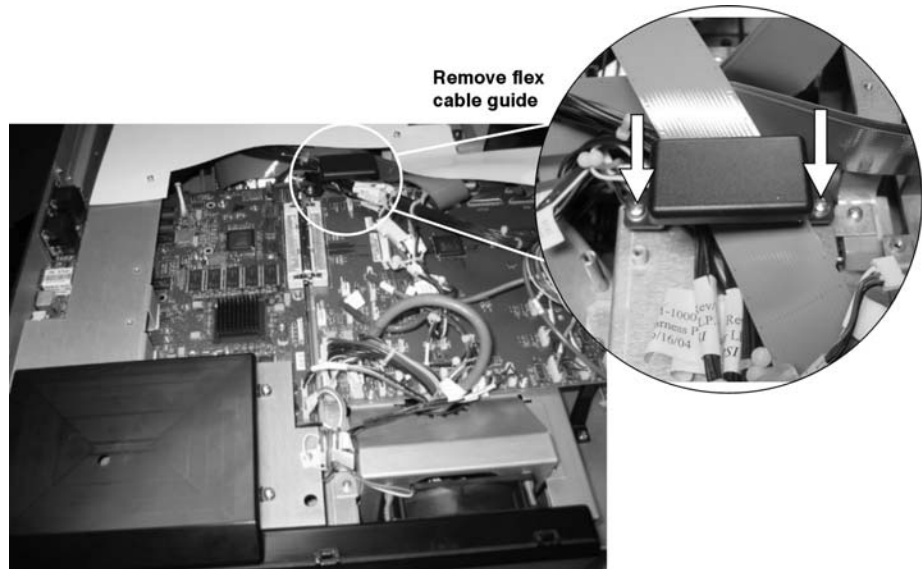

Figure 23. Flex Cable Guide
5. Remove the LVPS duct/cover by removing the black cable guide through which the flex cables are routed – two (2) screws. (Figure 23.) Then remove the five (5) screws securing the duct/cover in place. Make sure the harnessing clipped to the side of the duct is free before removing the duct.
6. Remove the light shield – five (5) screws.
- a) Remove the black cable guide through which the blue flex cables are routed to the TCPD/HDPD – two (2) screws. (Figure 23.)
- b) Remove the five (5) screws securing the duct/cover in place. Make sure the harnessing clipped to the side of the duct is free before removing the duct.